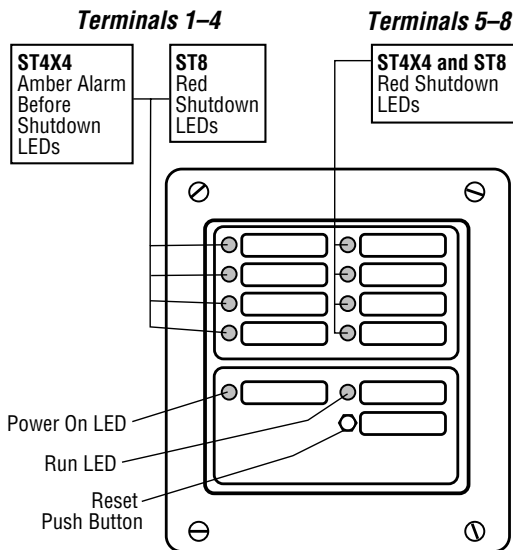

Figure 6
1. The 4 Red shutdown LEDs (inputs 5 thru 8) are for shutdown indication (see **Figure 6**).
4. The 8 Red shutdown LEDs are for shutdown indication (see **Figure 6**).